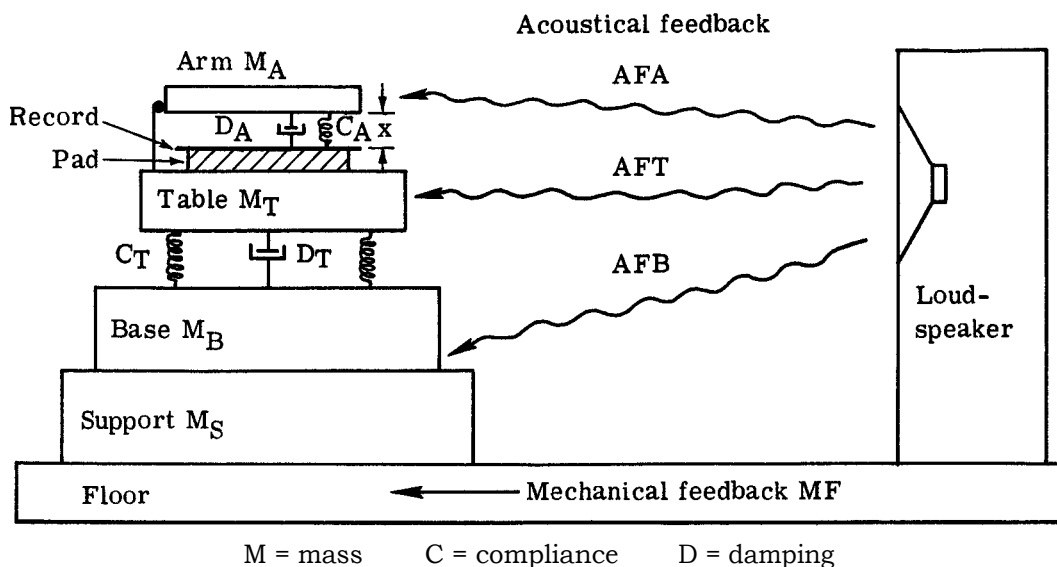

Figure 1
The standard curve depicting the safe operating area (SOA) of a transistor is commonly plotted on a current-versus-voltage scale. It is a closed curve within whose boundaries are the safe DC operating values of current and voltage for the transistor. In such a curve, shown in Fig. 1, the upper current limit (a) is set by the melting point of the small wire connecting the chip to the terminal pin of the transistor package. The next section of the curve (b) is the power dissipation limit of the transistor, a hyperbola along which the product of current times voltage (power) is constant. This is interrupted by a third region (c) known as secondary breakdown. If one spot on the chip happens to be passing a little more current than the rest, it will tend to heat more, raising the gain in that region. More current will then flow through the spot, heating it more, increasing the gain, and causing a current runaway condition. Ultimately the device pops. The boundary (d) represents the voltage limit set by the insulating or voltage breakdown properties of the device. The output transistors may operate outside of the (b)-(c) boundaries of the SOA only for very short periods of time before destructive overheating or breakdown occurs.
resonance characteristics. A typical set of load lines for one speaker at various frequencies are shown in Fig. 2. These pictures are real-time plots of I_c versus V_{ce} for an output transistor showing the load line, analogous to (e)-(f) and (g) in Fig. 1. In Fig. 2a, at 160 Hz, the speaker is presenting a very reactive load to the amplifier. At one point on the curve the transistor is putting out 40 Volts at 8 Amps or 320 Watts of peak power. In his amplifier survey, Tom found some units which could not handle this speaker.
Figure 1 is a simplified diagram of a turntable suspended on springs, a base for the table resting on a floor-standing cabinet, and a typical tone arm all with springs, dampers, and masses. There are four feedback paths from the loudspeakers to the table/arm system. Mechanical feedback (MF) travels through the floor and walls of the room to the base of the table (including the cabinet or shelf that it stands on). This may be a major feedback path and is the primary one for disturbances such as walking or foot stomping. Such disturbances are not fed back in a self-sustaining way, however, and can usually be eliminated entirely by brute force methods, such as massive cabinets, massive isolation bases, spring/damper feet of several sorts, and like schemes. Walking and dancing apply immense forces to the floor compared to those from a loudspeaker, and they are at very low frequencies compared to audio frequencies. Thus, it is certain that any system that has been made relatively immune to foot stomping will also be quite immune to mechanical feedback from the loudspeaker. In a well built house, it is easy to solve this problem; in a more flimsy house, it might require exotic bases, masses, and suspension feet.